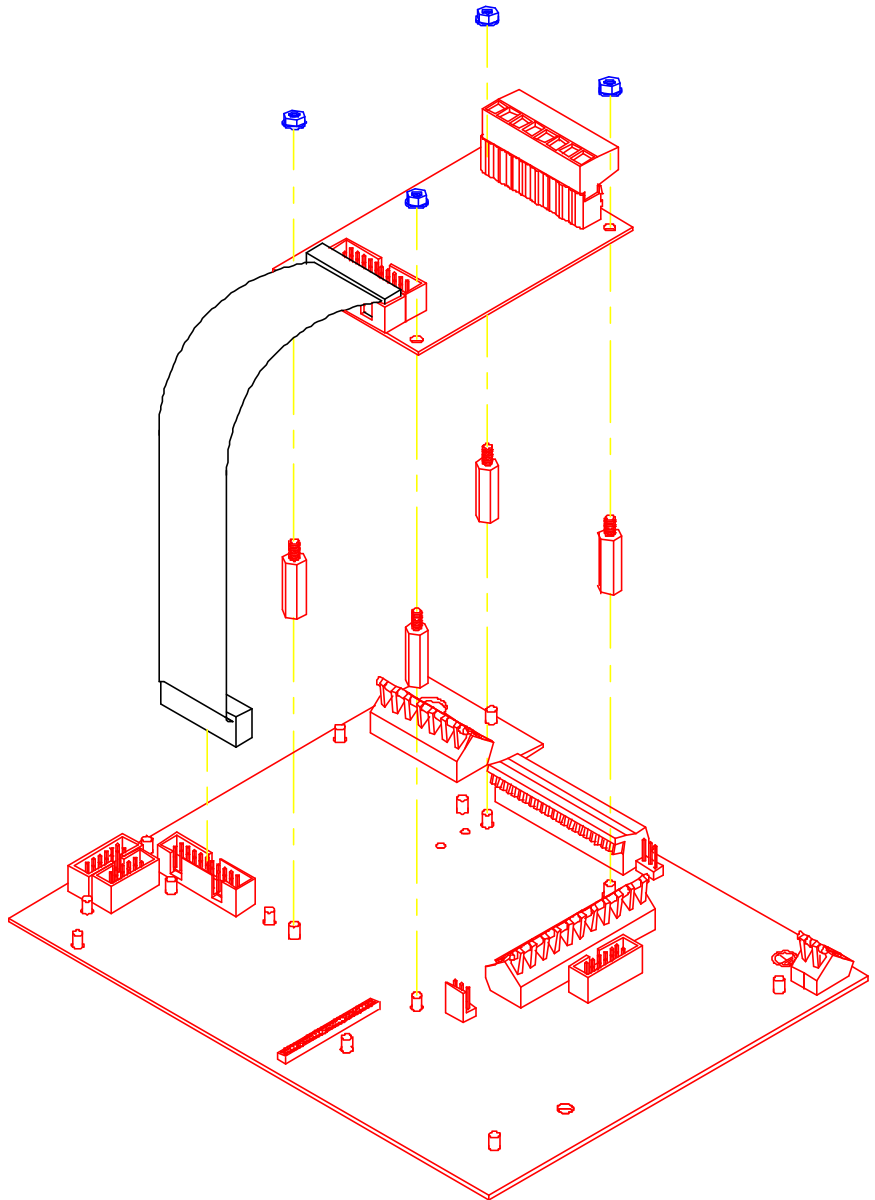

Figure 13-3: 660 Series Internal SBM Installation
1. Install the 4 M3 Male-Female aluminum standoffs on the 4 short studs protruding through the main board using a 6mm socket or wrench. See Figure 13-3.